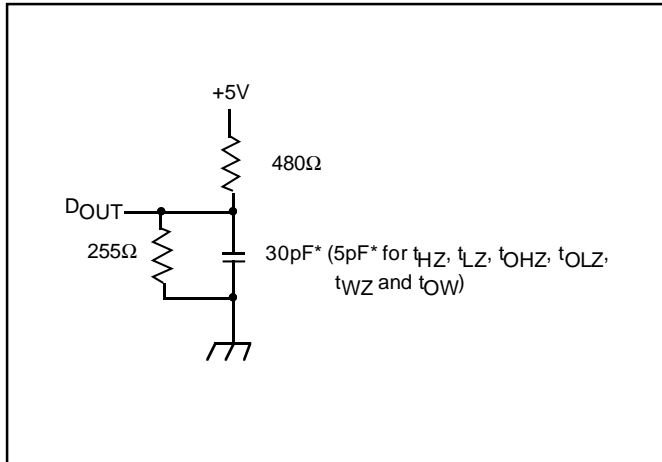

Figure 1. Output Load
9. Transition is measured $\pm 200mV$ from steady state voltage prior to change, with loading as specified in Figure 1.
Output Load	See Figures 1 and 2